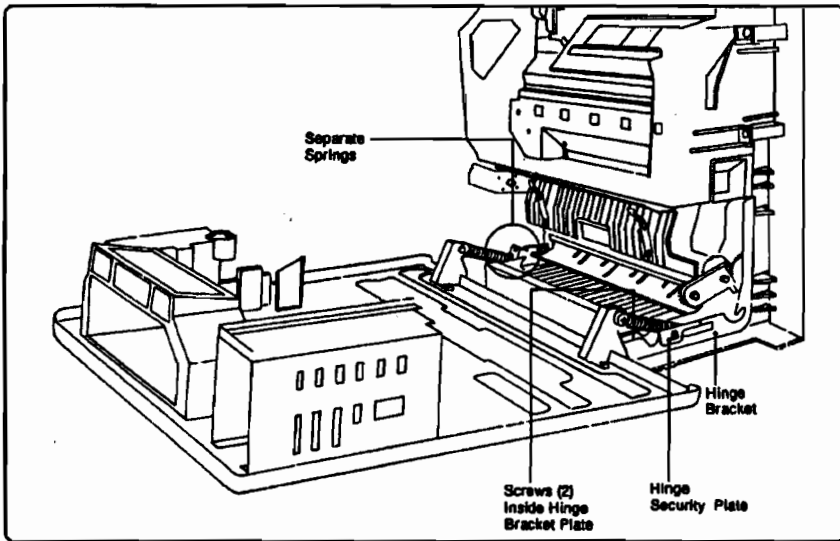

Figure 6-50. Top Cover Assembly Removal
3. Remove the Hinge Security Plates (one screw on each hinge plate) and disconnect the two coil springs on the left side (see Figure 6-50). Swing the Hinge Springs out of the way.
4. Remove the (4) Hinge Bracket Plate screws (two through each Hinge Bracket Plate) where they attach to the Top Cover Assembly, supporting the Top Cover Assembly.
2. If the Hinge Assemblies are still attached to the Top Cover Assembly (see Figure 6-50), remove them (4 screws, 2 on each Hinge Assembly).